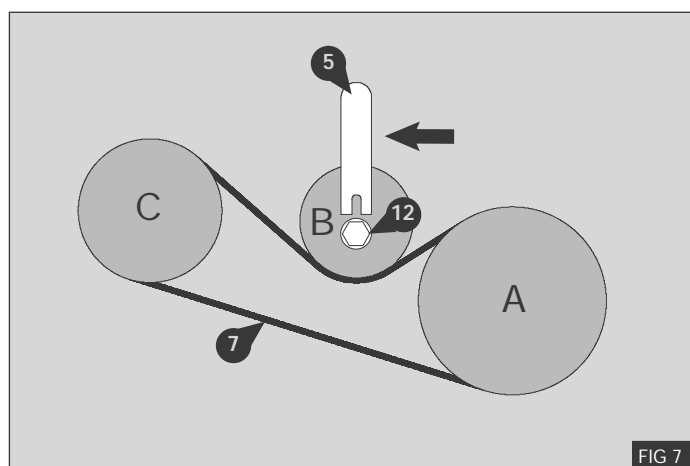

FIG 7
2. Fit the drive belt ⑦ as shown - Fig 7
3. Tension the drive belt to correct tension (see table) using the supplied eccentric tool ⑤, tighten bolt ⑫, to lock eccentric pulley.
4. Torque bolt ⑫ to 44 Nm / 32 lb ft - Fig 7.